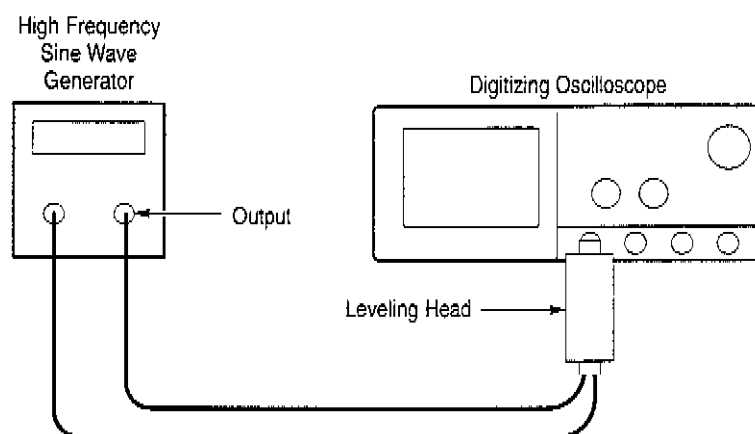

Figure 1-7: Initial Test Hookup
- c. *Hook up the test-signal source:* Connect, through its leveling head, the sine wave output of a high-frequency leveled sine wave generator to **CH 1**. Set the output of the generator to a reference frequency of 6 MHz. See Figure 1-7.